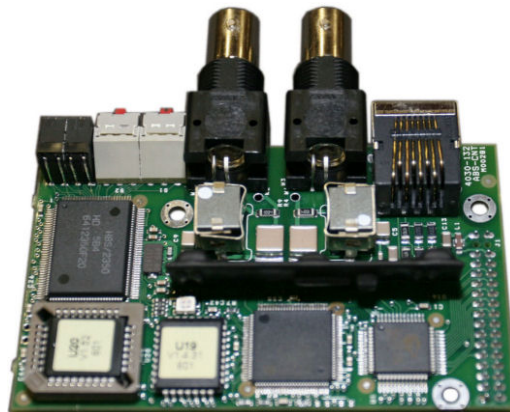
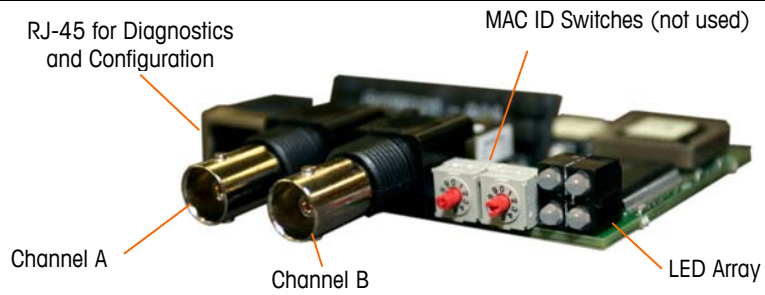
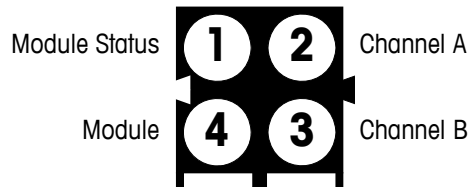

Figure 2-68: ControlNet PLC Module
Figure 2-69: ControlNet PLC Module Connections and Components
Figure 2-70: ControlNet Status Indicator LEDs
The ControlNet PLC Module (Figure 2-68, Figure 2-69) connects to the ControlNet network via one or two coaxial cables (Figure 2-69). Channel B is redundant with Channel A, and is not used unless ControlNet detects no signal on Channel A. Note that the module's address is set in software, and the MAC ID switches indicated in Figure 2-69 are not used.
- Do **not** plug an Ethernet cable into the RJ-45 connector shown at left in Figure 2-69. Damage to the IND780 may result.
Figure 2-70 shows the array of status indicator LEDs on the ControlNet card (see also Figure 2-69).